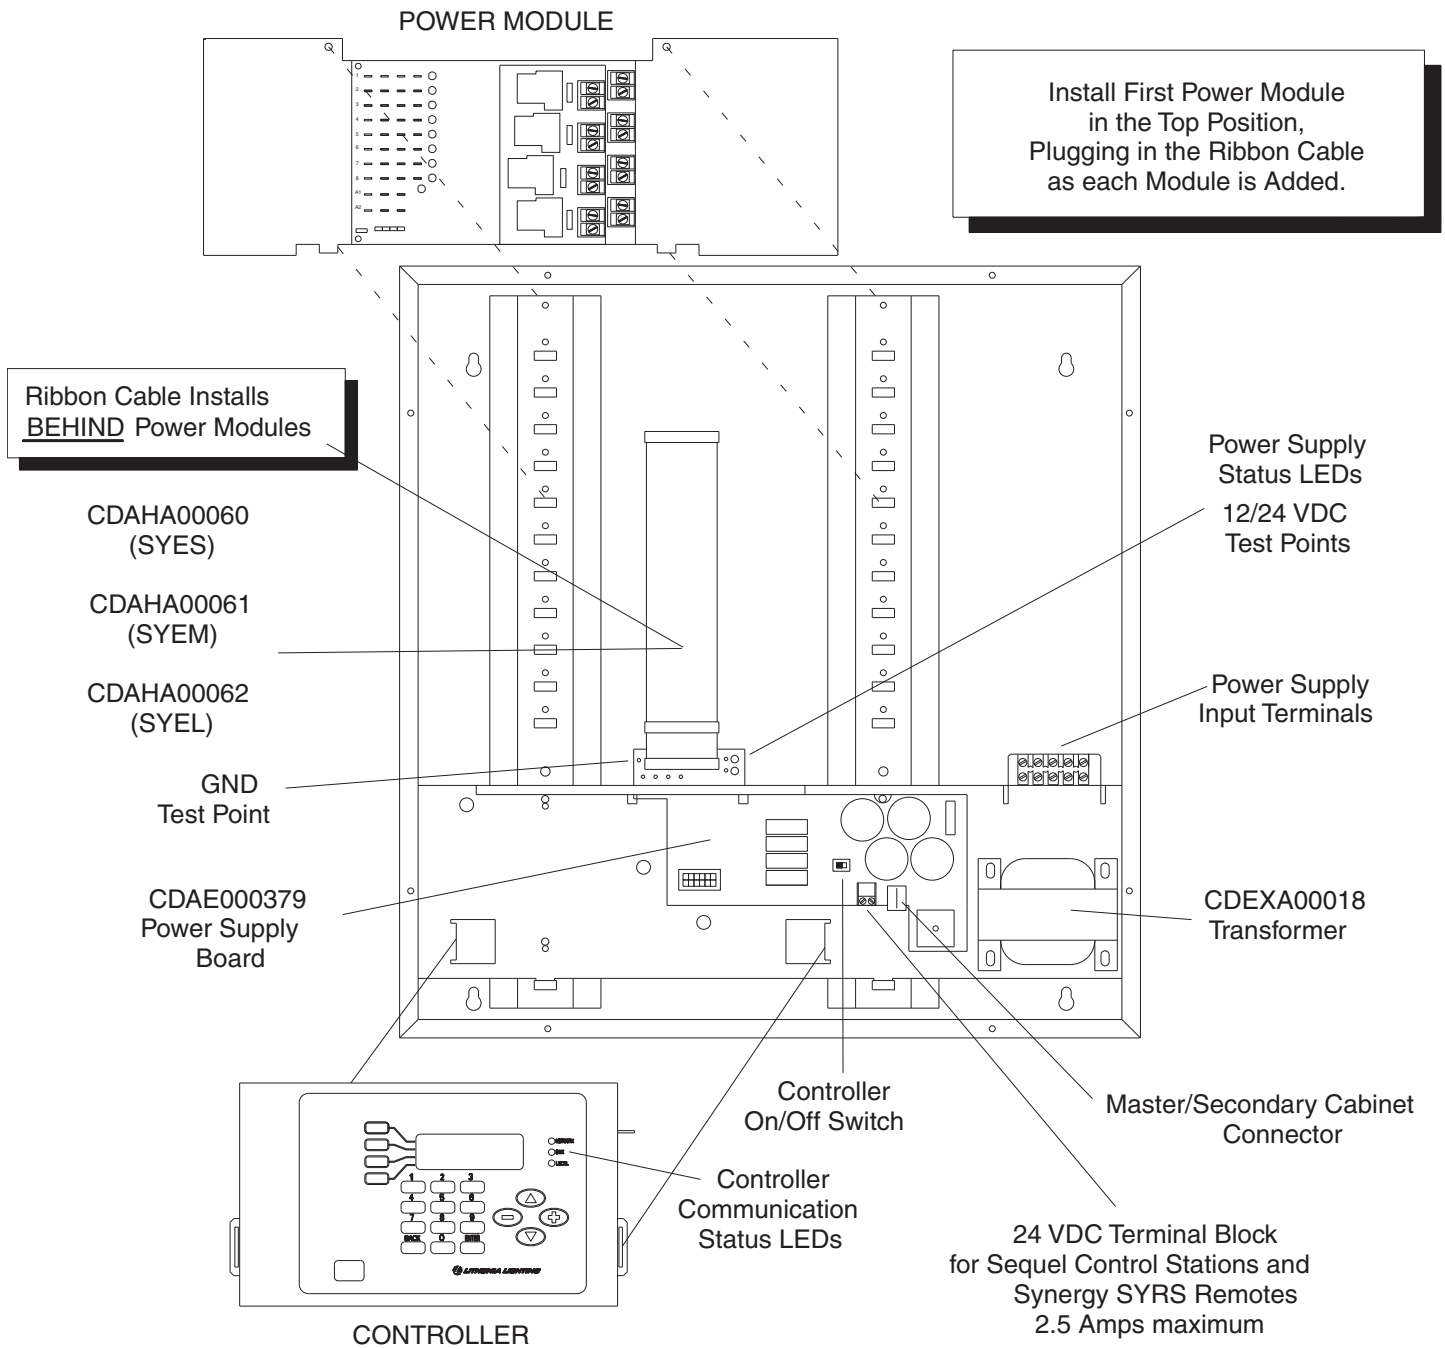

Figure 2 - Part Number and Voltage Test Point Reference Information
1. Controller switch should be in the off position. See figure 2.